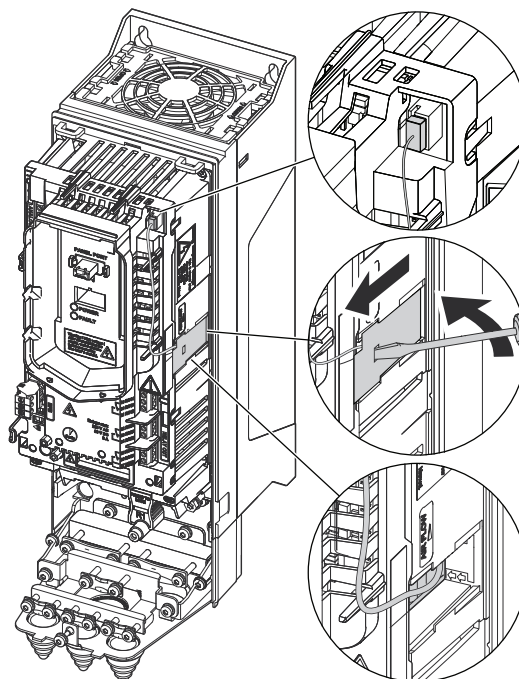

Fig. 50 — Remove Auxiliary Fan
4. Unplug fan power supply wires from the drive (see Fig. 50).
5. Remove the fingerguard: Insert a screwdriver into the hole of the fingerguard (see Fig. 50).
6. Unplug the fan power supply wires from the drive (see Fig. 50).